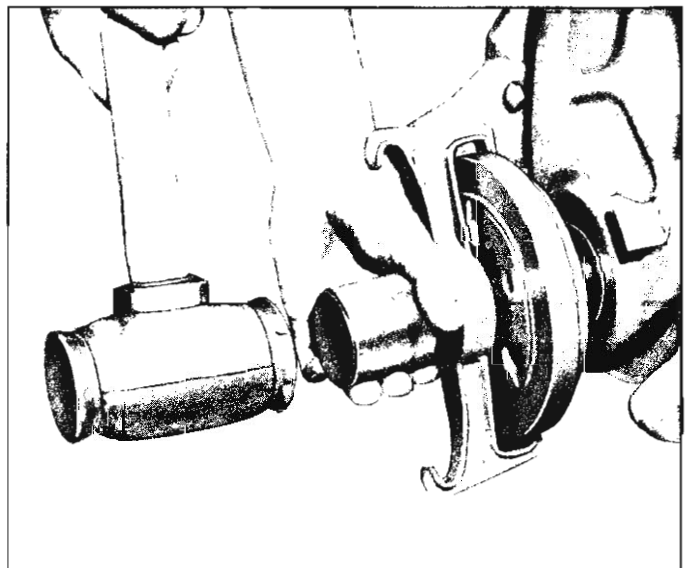

Fig. 10—Installer Tool in Place
3. Install tool over balancer as shown in Figure 10 with pilot adapter in the bore of hub. Tighten threaded driver only finger tight to keep from pulling balancer apart.